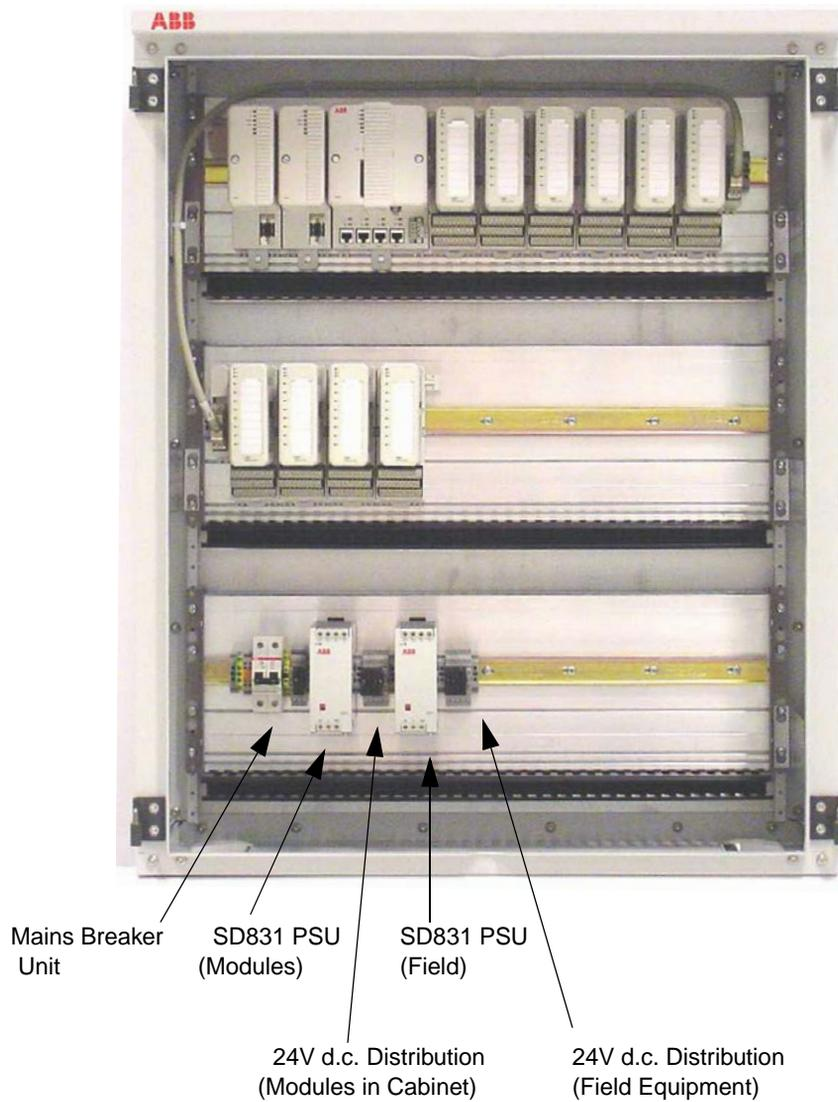

Figure 5.2: Wall Cabinet - Dual Power Supply (Local/Field) Arrangement
- Figure 5.2 on page 87, Wall Cabinet - Dual Power Supply (Local/Field) Arrangement